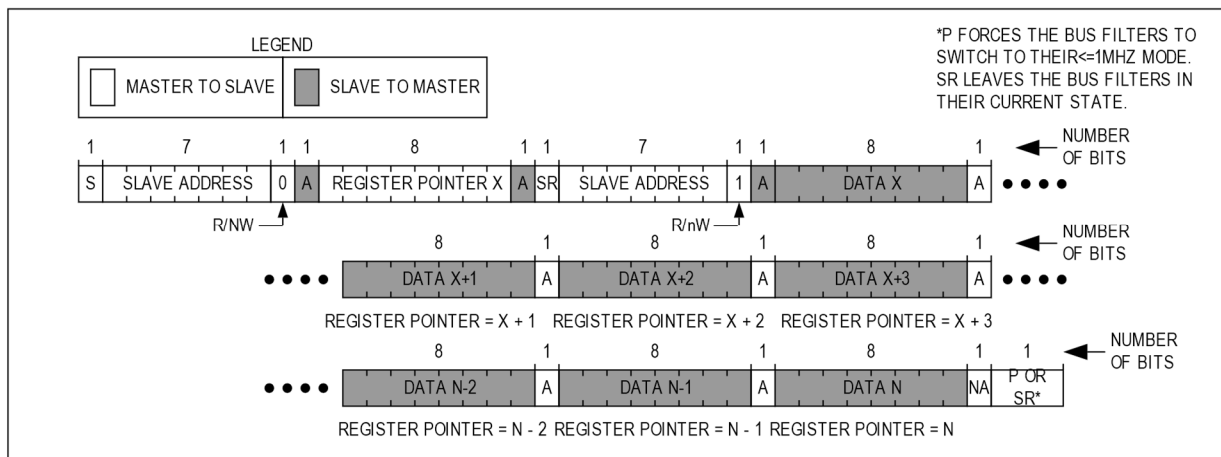

Figure 7. Reading from multiple registers.
Figure 7 shows the protocol for reading from sequential registers. This protocol is similar to the read-byte protocol except the master issues an acknowledge to signal the slave that it wants more data. When the master has all the data it requires, it issues a not-acknowledge (nA) and a STOP (P) to end the transmission.